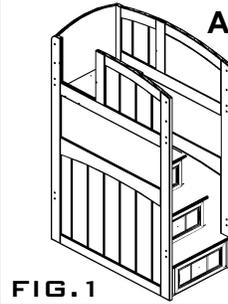

FIG. 1
STEP BUNK UNIT BOX (28-160) FIG.1
- 1.- ASSEMBLE TWIN/FULL BOTTOM HDBD&FTBD, USING ONE HEADBOARD (U), ONE FOOTBOARD (V) AND TWO SIDE RAILS (C).
- 2.- INSERT TWO CROSS DOWEL NUTS (F) IN ACCESS HOLE INSIDE THE SIDE RAIL, ALIGN THE CROSS DOWEL NUT, MAKE SURE THE GROOVE IS HORIZONTAL, **SEE FIG.B**
- 3.- ATTACH THE HDBD&FTBD INTO THE SIDE RAILS, INSERTING TWO FLAT HEAD BOLTS (E) INTO THE HDBD&FTBD HOLES, USE THE 5MM ALLEN WRENCH (G) TO TIGHTEN BOLTS UNTIL SECURE, **SEE FIG.1**